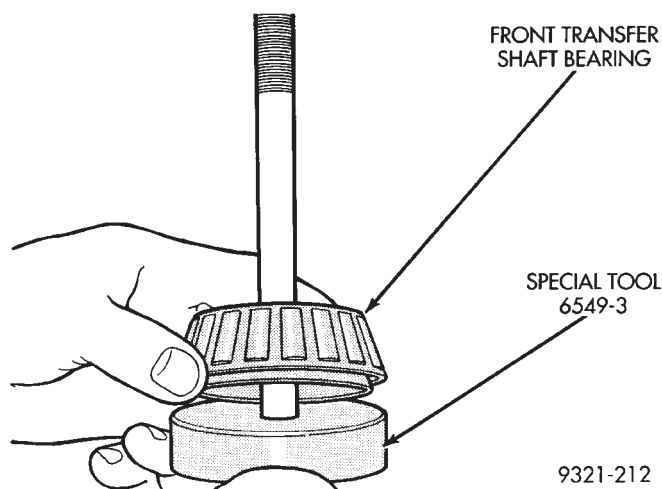

Fig. 252 Gauge Disc and Bearing
(3) Install new front bearing (actual bearing to be used during reassembly) onto gauge disc (special tool 6549-3) (Fig. 252).